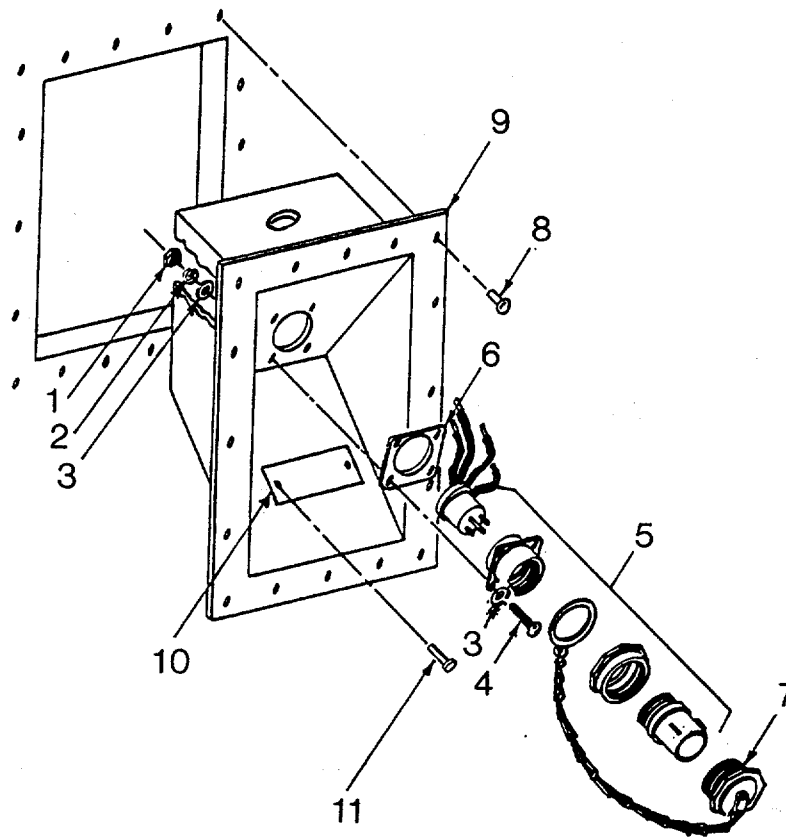

Figure 5-3. Main Power Cable Receptacle Assembly (Outside Shelter)
- (4) Remove nuts (1, Figure 5-3), lockwashers (2), flat washers (3), and screws (4) from main power receptacle.
- (5) Remove receptacle (5), gasket (6), and cap (7) from recessed receptacle box.
- (6) Remove rivets (8) from recessed receptacle box by drilling or chiseling off heads.